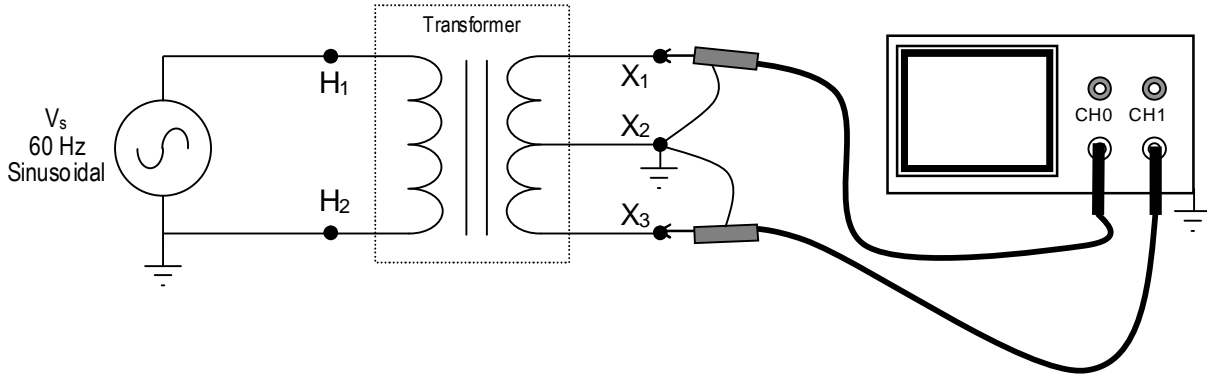

Figure 8.4: Testing Secondary Center Tap
- Connect the NI-ELVIS oscilloscope across the transformer, as indicated in Figure 8.4: CHANNEL 0 across X_1 – X_2 ; and CHANNEL 1 across X_2 – X_3 . In both cases, X_2 *must* be connected to the scope's ground lead.